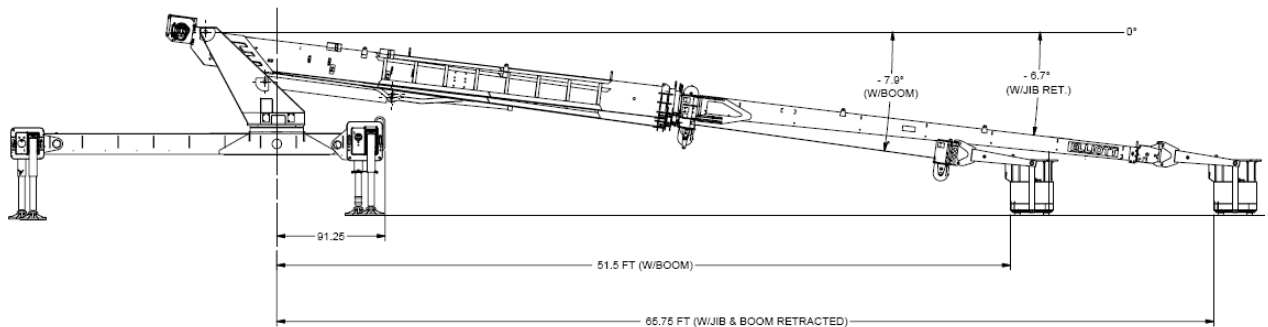

Figure 3: Platform ground location
- A.** Set the platform at a 51.5 ft radius from the truck center of rotation as shown in Figure 3.
- A. Set the platform at a 65.8 ft radius from the truck center of rotation as shown in Figure 3.
- A. Set the platform at a 88.4 ft radius from the truck center of rotation as shown in Figure 3.